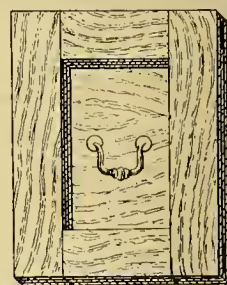

FIG. 32.—END OF BOX.
*The Sides.*—I give, in Fig. 32, a sketch of one of the sides, which sufficiently explains itself for our purpose—the stiles being  $16\frac{1}{2}$  inches by 3 inches, and the top and bottom rails  $6\frac{1}{2}$  inches by 3 inches. Two brass handles, strong enough to bear the weight of the instrument, are to be fixed in the centre of the panels.